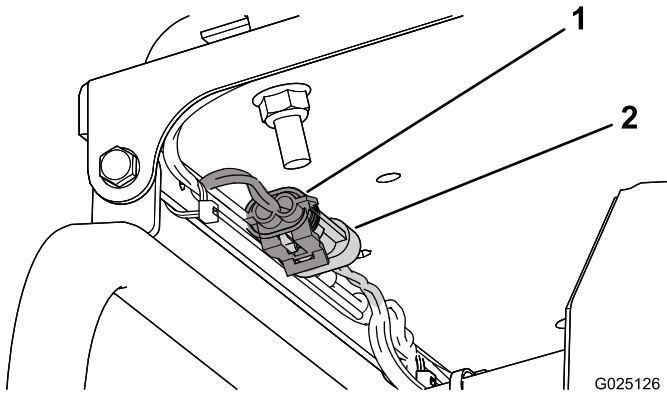

Figure 2
3. If the machine is equipped with a light kit, disconnect the existing hour-meter wiring harness from the light-kit wiring harness (Figure 2).
9. If the machine is equipped with a light kit, plug the light-kit wiring harness into the appropriate connector of the wireless-hour-meter wiring harness (Figure 2).